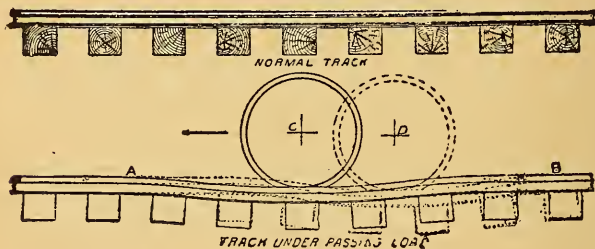

FIG. 26.
1. As all the rail movements are on the principle of the lever, there is, of necessity, a rising and falling of same, or, in other words, an undulatory motion on the passage of every train, the principle of which is illustrated in Fig. 26. The amount of this is dependent